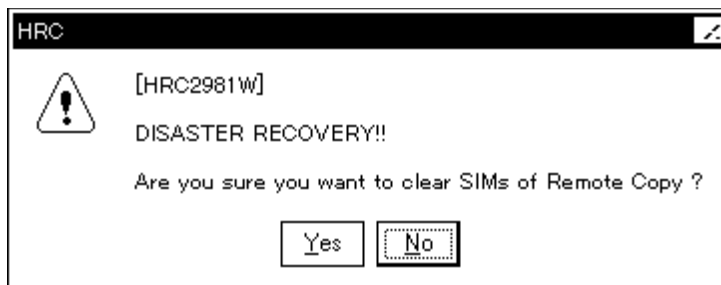

Figure 4.10 Clear SIM Confirmation Panel
3. On the Clear SIM confirmation panel (see Figure 4.10), select **Yes** to clear all remote copy SIMs from the connected subsystem, or select **No** to cancel your request to clear SIMs.